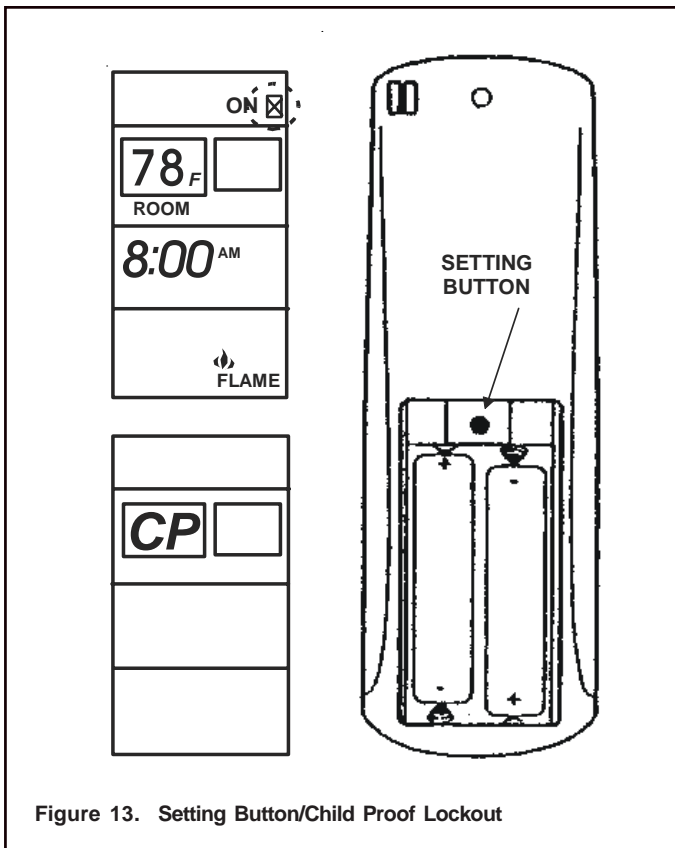

Figure 13. Setting Button/Child Proof Lockout
1. Remove the battery cover on the back of the transmitter and locate the “setting button” at the top center of battery compartment (see Figure 13).
1. Press and hold in the "setting button" for 5 seconds. The letters CP will display on the LCD screen (see Figure 13). This prevents the activation of fireplace. When any function button is pressed ON/OFF etc. the letter CP will display on the LCD screen.